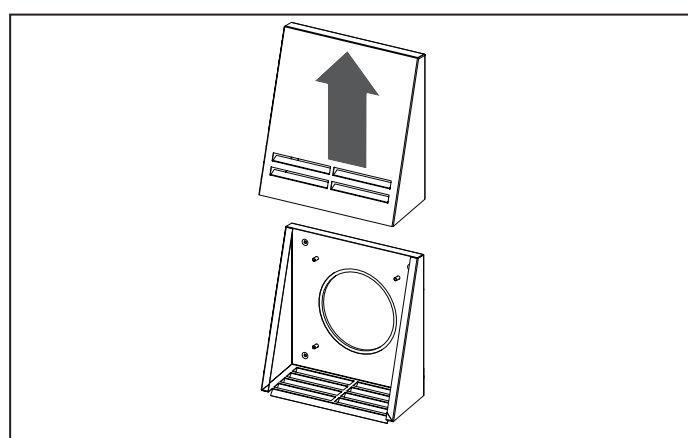

Fig. 12a.
- Fig. 12a - models VENTO A50 / A50-1. Remove the upper part of the outer ventilation hood.